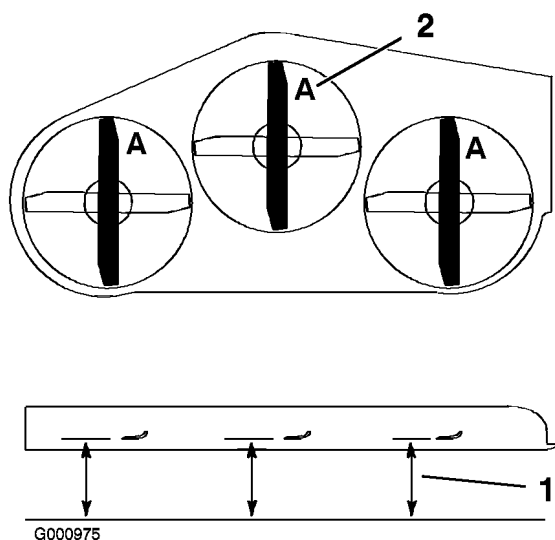

Figure 66
3. With the machine on level surface, position one blade front-to-rear (Figure 66). Measure at **A** and from level surface to the cutting edge of the blade tips (Figure 66).